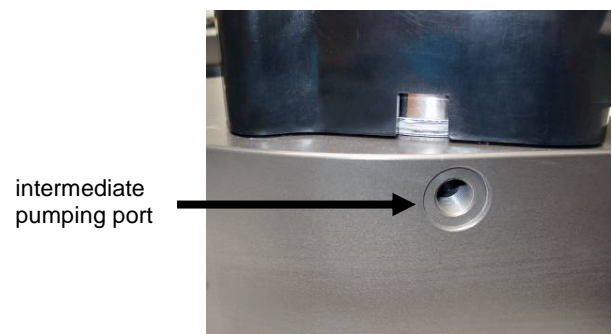

Fig. 2
7. This valve has a double sealed rotary feedthrough and optionally an intermediate pumping port for the actuator shaft. This port (1/8" ISO/NPT) could be connected to the vacuum line, see Figure 2 below.